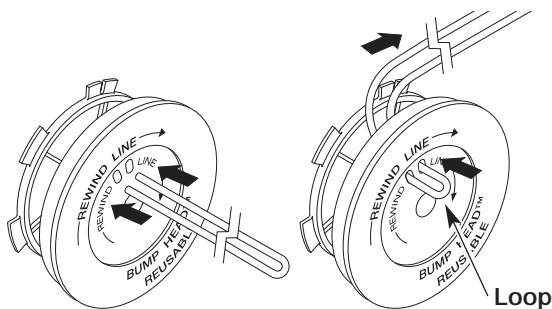

Figure 21
- Cut approximately 25 feet (7.6 m) of new trimming line, then loop it into two equal lengths. Insert each end of the line through one of the two holes in the inner reel. Pull the line through the inner reel so that the loop is as small as possible. See Figure 21.